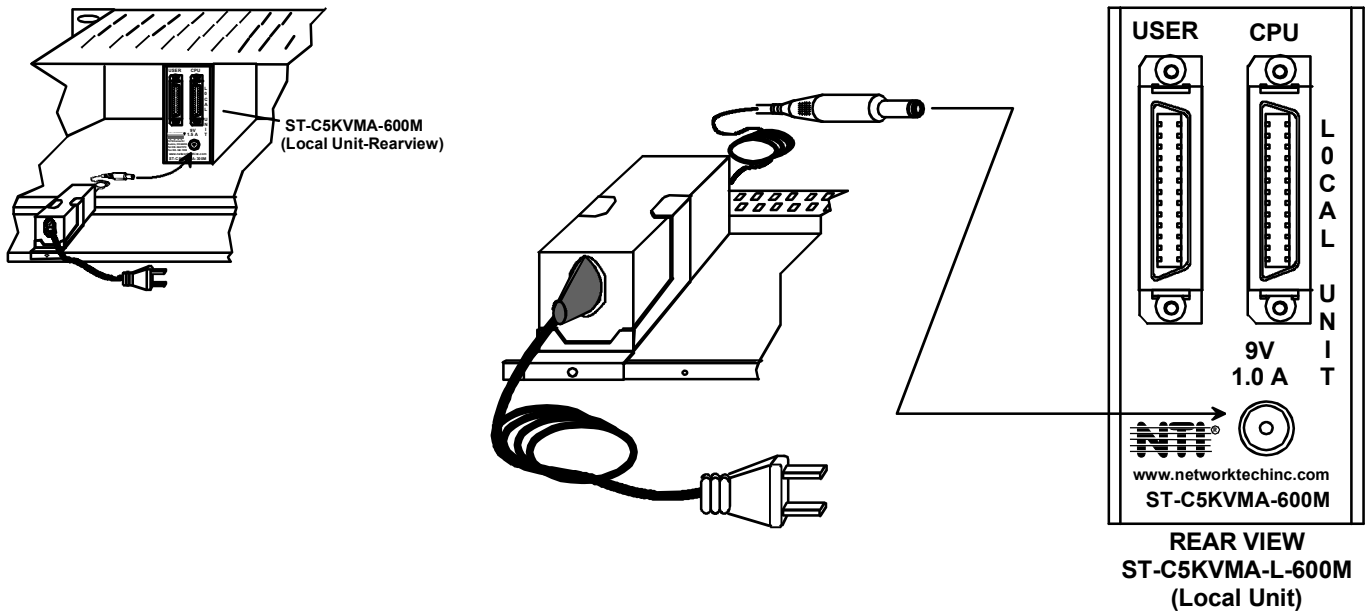

Figure 21- Connect AC adapters
2. Connect the AC adapter power connectors to the 9VDC ports on the Remote and Local Units. (AC adapter shown in Figure 21)